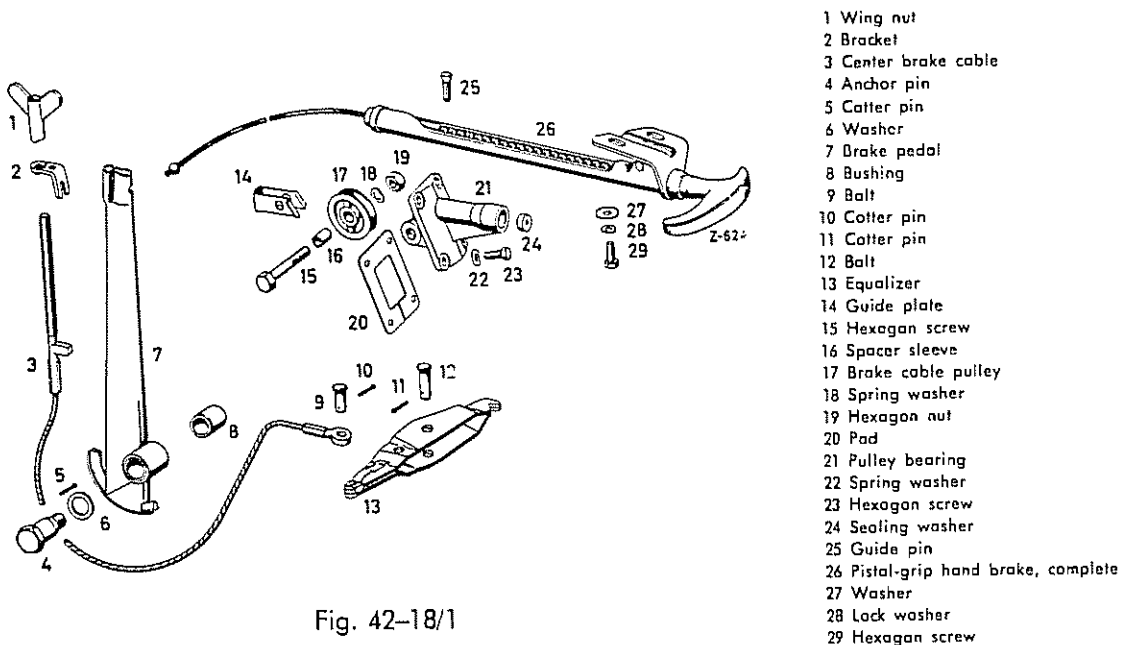

Fig. 42-18/1
Also on this model the pistol-grip hand brake is arranged on the left side below the steering column. The guide tube of the ratchet is not attached to the steering column jocket but to the cowl (by two hexagon screws at the top and by the pulley bearing (21) below), and the front brake cable is carried by the brake cable pulley (17) (Fig. 42-18/1).
When reinstalling the ratchet make sure that the guide plate (14) is properly seated on the pulley (17) (Fig. 42-18/1).